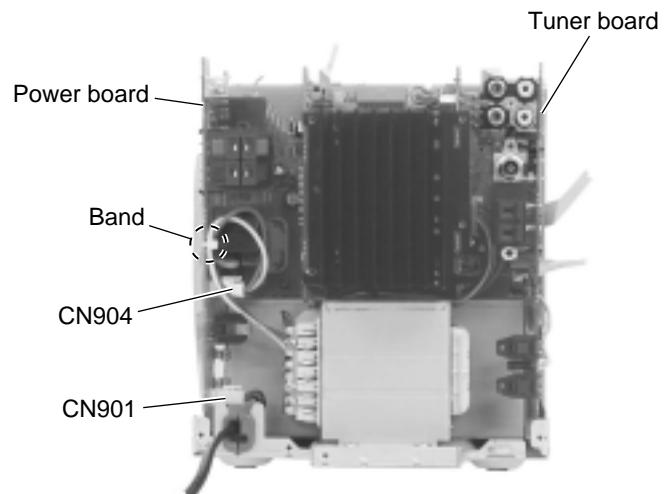

Fig.14
■Removing the power board (See Fig.14 and 15)